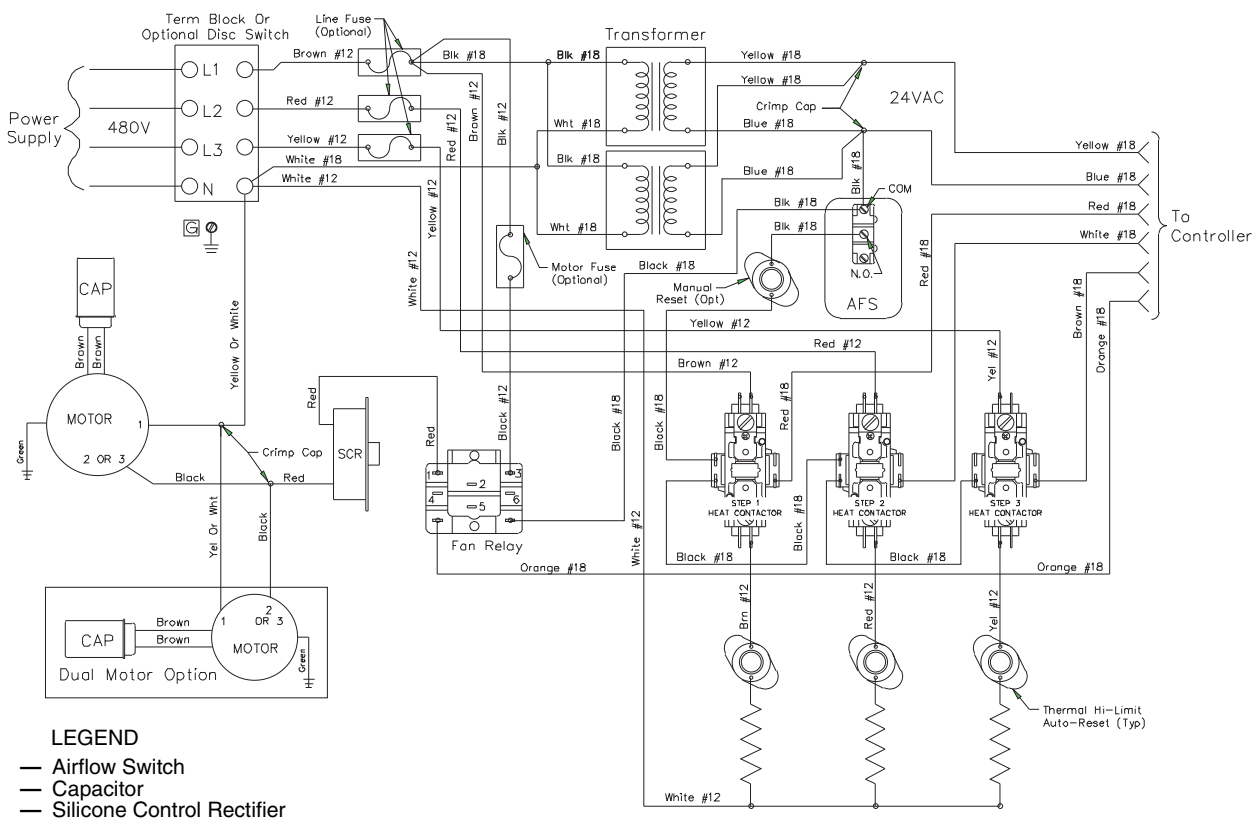

Fig. 8 — Typical Power Connections for Fan Powered Units with 3-Stage Electric Heat
Step 3 — Connect Power Wiring (See Fig. 8)
Each 45J, 45K, and 45Q unit is equipped with a centerpoint averaging flow probe which provides an amplified differential pressure that is proportional to the unit airflow. Output from this probe is used to provide a flow signal to both pneumatic and electronic controls. Unit airflow (cfm) can be read directly from the flow probe on the unit (refer to Fig. 8).